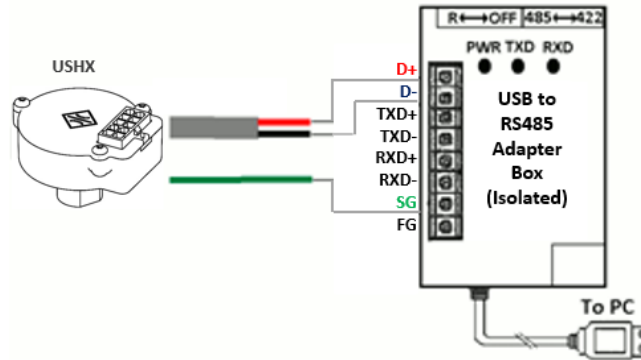

Figure 3-3 USHX-to-RS485 converter connection
6. Connect the RS485 communication wires (2-wire gray cord that contains a red and a black wire and the green data ground wire) to the D+, D-, and SG terminals on the USB-to-RS485 converter as shown below in **Figure 3-3**. For the USHX setup, the RS485 will require an adapter with built-in **electrical isolation**.